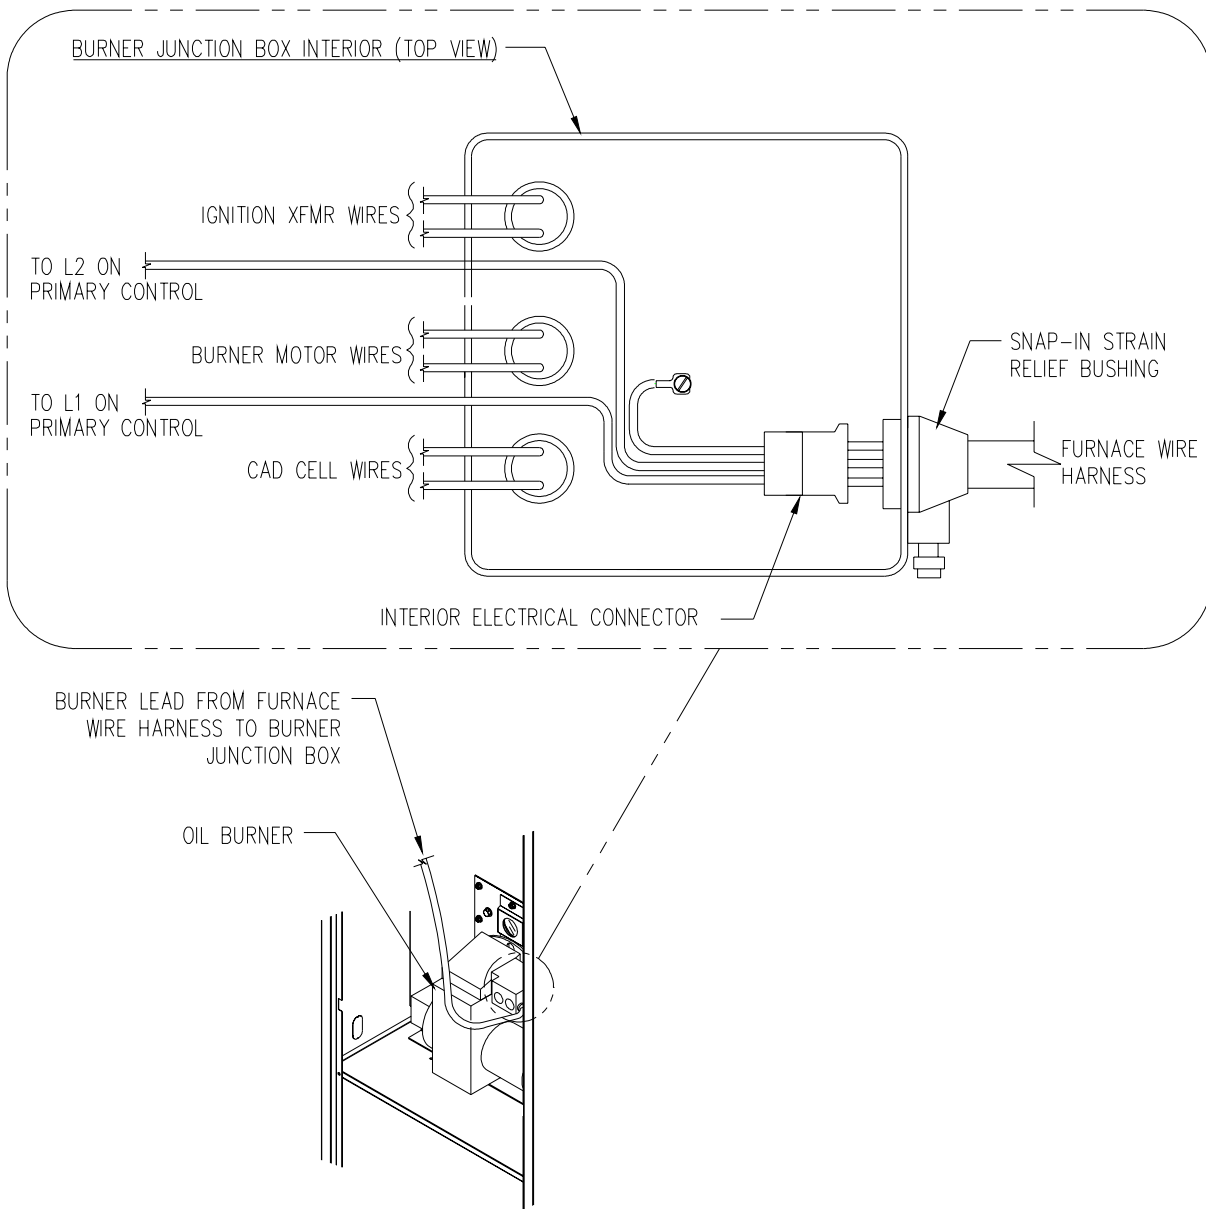

Figure 3: Connecting the Furnace Wiring Harness to the Burner Wiring Harness
- 8) The burner and wiring harness are equipped with mating, three (3) pole, quick-connect, electrical couplings. To make the connection between the burner wiring harness and the furnace wiring harness, open the burner junction box cover (the oil primary control serves as the cover) and remove a knockout slug from the right-hand side of the burner junction box.
- 9) Insert the electrical coupling from the furnace wiring harness through the knockout hole in the burner junction box. Snap together the furnace electrical coupling with the oil burner electrical coupling, refer to Figure 3.